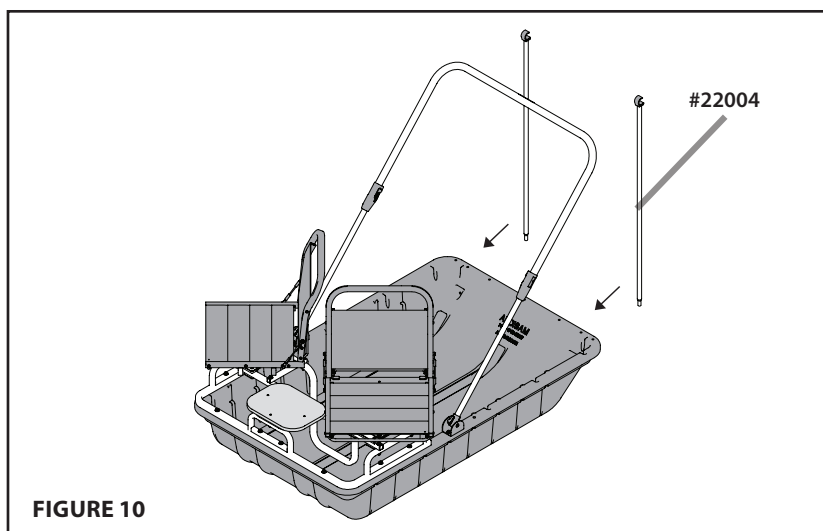

FIGURE 10
10. [FIGURE 10]
Enter the shelter and install the back spreader poles (#22004) to (#21950) and the sled, as shown in **Figure 10** earlier in this manual.